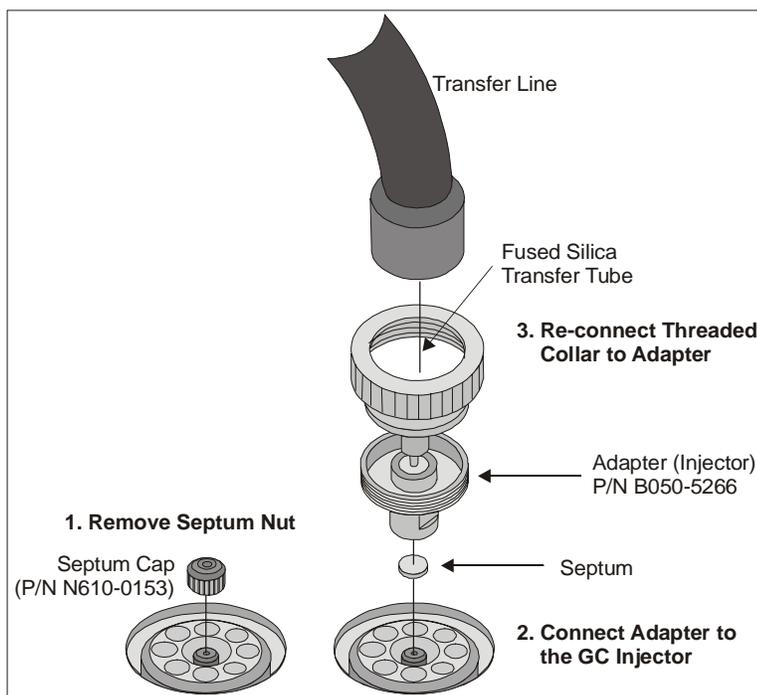

Figure 18 Installing the Heated Transfer Line at the PerkinElmer GC Injector
5. Place the septum into the adapter (See Figure 18).